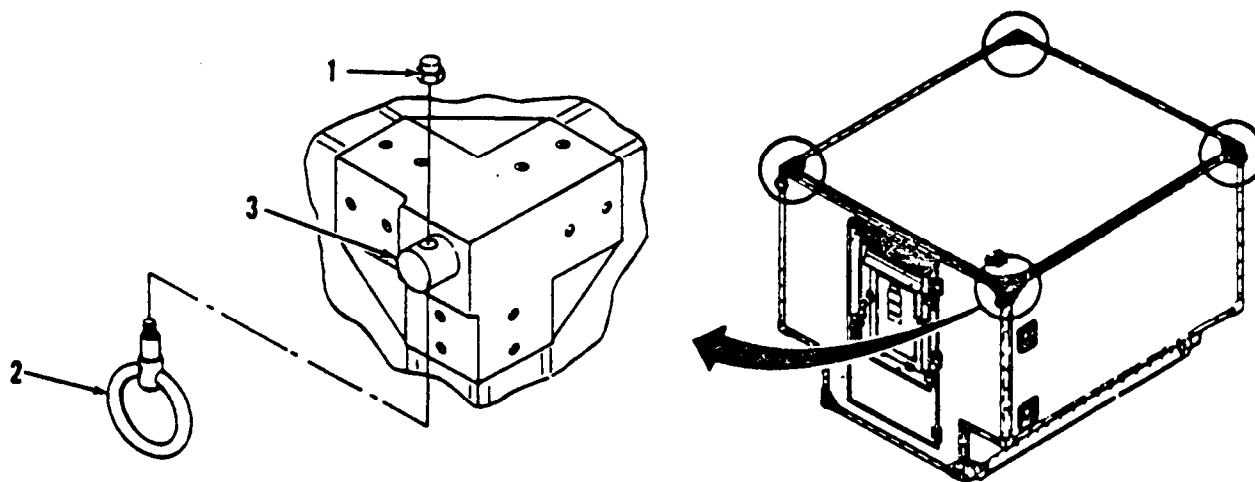

Figure 3-38. Lifting Bracket Assembly Repair.
a. Inspect. (Figure 3-38)
- (1) Inspect for free movement and secure mounting.
- (2) Inspect for cracks or other external damage.
b. Repair. (Figure 3-38)
- (1) Remove nut (1) and attaching ring (2) to lifting bracket pin (3) and remove ring.
- (2) Push mounting end of ring (2) through mounting hole of lifting bracket pin (3) and secure with nut (1).